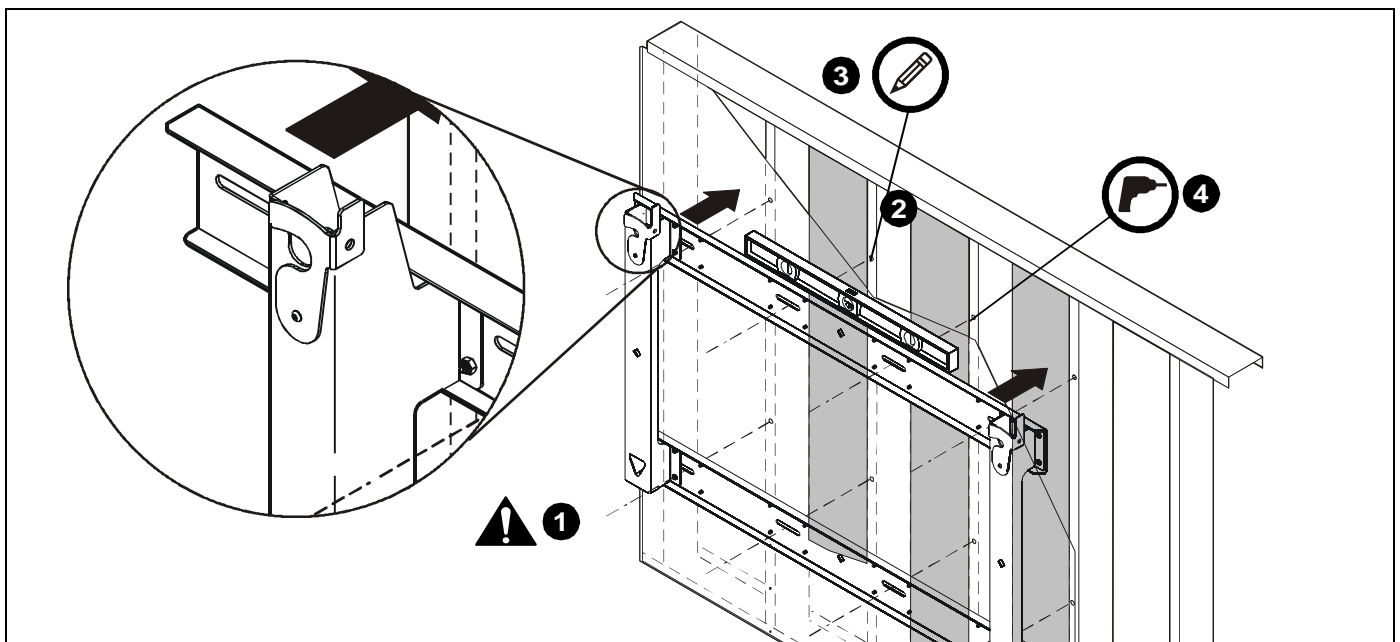

Figure 2
1. Using appropriate lifting device, raise assembled mount and place mount against wall in desired installation location. (See Figure 2)
3. Using a pencil, or similar marking tool, mark the location of mounting holes in base onto surface. (See Figure 2)
4. Drill eight pilot holes at marked locations. (See Figure 2)